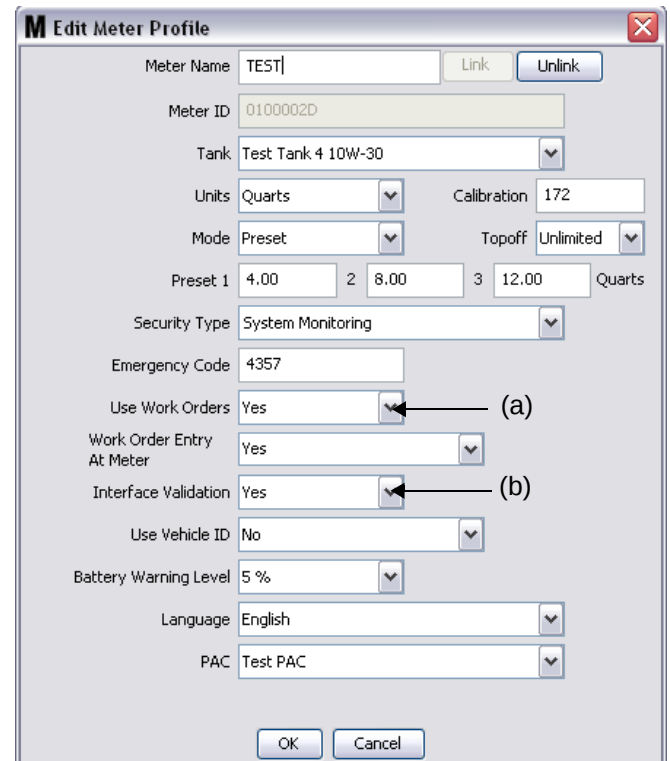

FIG. 4
Clicking on the modify button for a meter, displays the Edit Meter Profile screen for that meter (FIG. 4). See the Graco Matrix Instruction Manual Meters section, for complete instructions for Adding a Meter and Modifying Existing Meter Information.
For a meter to use the interface, the meter must be configured to use work orders, i.e., *Use Work Orders* set (A) to "yes" (FIG. 4) and the interface for this meter turned on; i.e., *Interface Validation* (b) set to "yes".